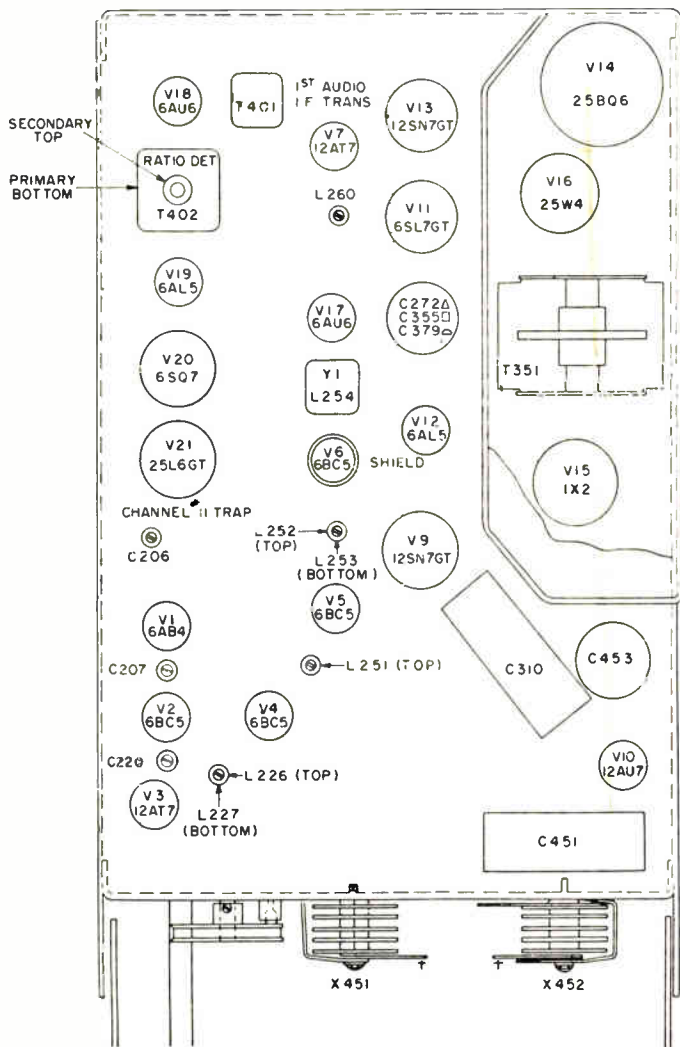
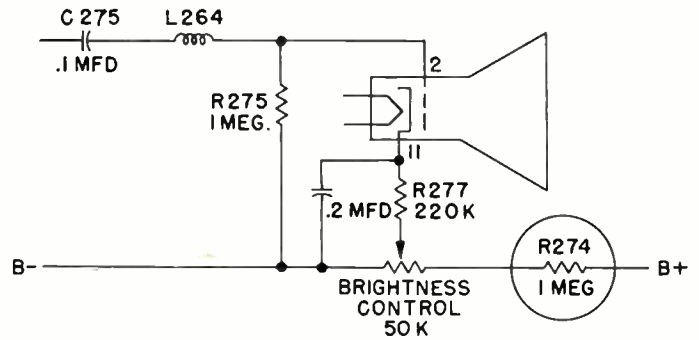

Fig. 1
Fig. 2
**TELE-CLUE M-212**—The distortion shown here was caused by a 6BC5 tube with grid emission in a General Electric Model 17T1 receiver. The receiver would operate normally for about ten minutes. The contrast would then slowly increase until the contrast control had little or no effect on the picture. If any one of the AGC controlled tubes are leaky, gassy or have grid emission, the picture will be affected. V2, 4, 5, and 6 are AGC controlled in the chassis layout shown in Fig. 1. Due to the shield on V6 this tube runs hotter than the others and may, therefore, be more susceptible to this defect. Tele-Clue M-102 describes other components which may produce a similar condition.
**TELE-CLUE Q-213**—The above photograph shows the effect of too much brightness which could not be reduced beyond the level shown. A heater-cathode short in the picture tube will cause this condition. This type of short can be cured sometimes by gently topping on tube neck. Another defect which may develop in General Electric receivers such as model 17T1 is an increase in the value of resistor R274 encircled in Fig. 2. This resistor is located above the chassis on the terminal board near capacitor C-451 in Fig. 1.